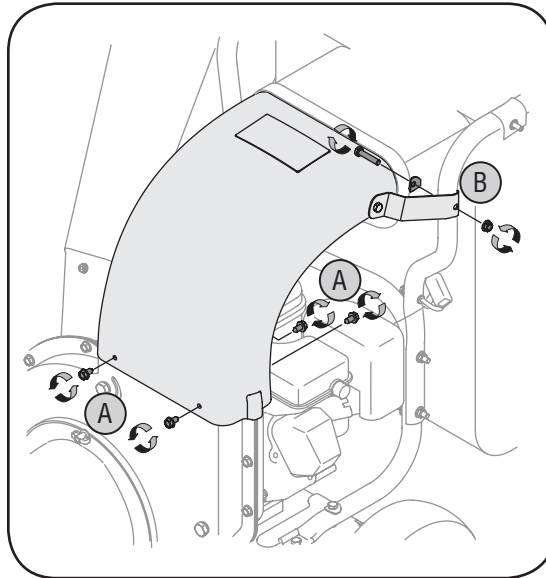

Figure 5-3
- a. Remove the four self-tapping screws from the bottom of the discharge chute. See Figure 5-3.
- b. Remove the hex bolt, saddle washer and hex nut from the top and remove the discharge chute assembly. See Figure 5-3.